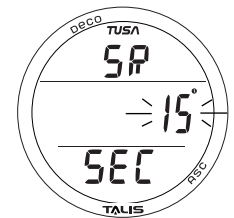

Fig. 43 - SET SAMPLING RATE
**SET SAMPLING RATE**, information includes (Fig. 43):